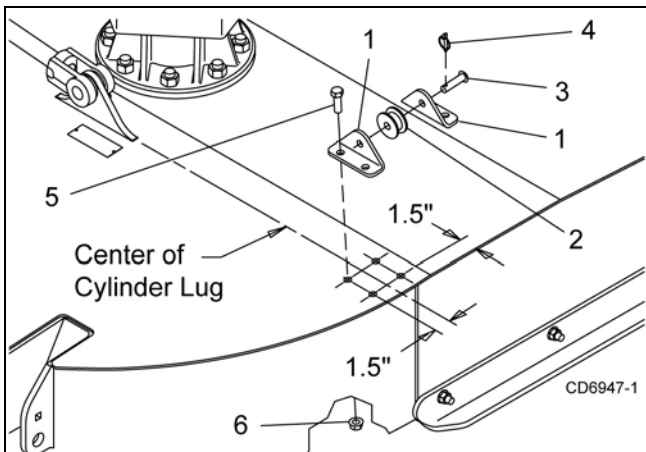

Figure 39. Roller Assembly Installation
1. Locate and drill one 9/16" hole in each wing using dimensions shown in Figure 39. Assemble items 1, 2, 3 and 4. Use assembly to locate and drill remaining holes.
2. Secure idler brackets (1) and rollers (2) to deck with bolts (5) and nuts (6).
3. Remove cylinder pin: Place channel (10) over cylinder and cylinder lug. Place wing lock-up bracket over channel and insert pin (8), washers (7), and cotter pins (9). NOTE: Washers (7) are used as spacers and are placed between lock-up bracket and channel (10) as needed.
4. Repeat step to install second channel (10) on opposite wing.
5. Attach winch assembly to channels (10) using bolts (5) and lock nuts (6).